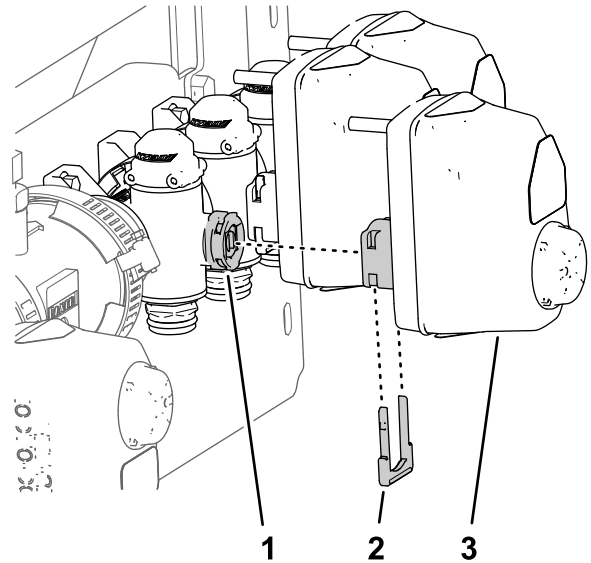

Figure 51
- Align the coupler of the section valve actuator that you removed in step 2 of Removing the Valve Actuator (page 24) with the stem port of the manifold valve (Figure 51).
- Secure the section valve actuator to the manifold valve with a retainer (Figure 51) that you removed in step 1 of Removing the Valve Actuator (page 24).